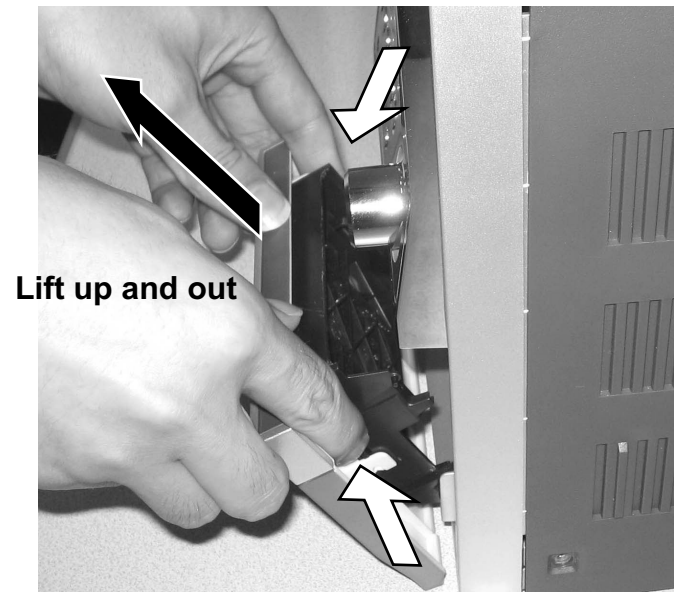
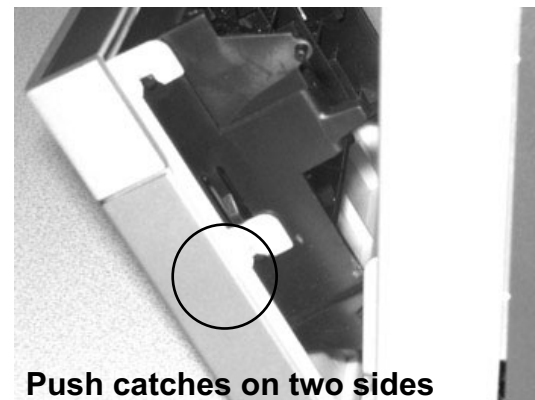

Figure 1
Figure 1A
- 1) Push 1 catch each on the left & right side then remove the Cover Cassette in the direction as shown in Figure 1 and Figure 1A.